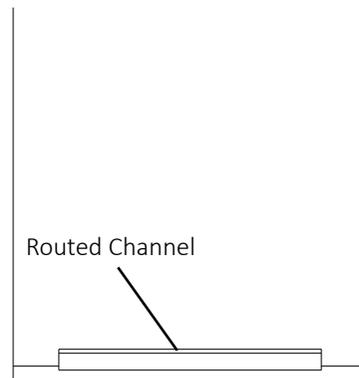

Fig. 1
1. Rout a channel at the bottom of the overlay panel to the proper dimensions. See “(C) Routed Area” in the specification diagram and Fig. 1.